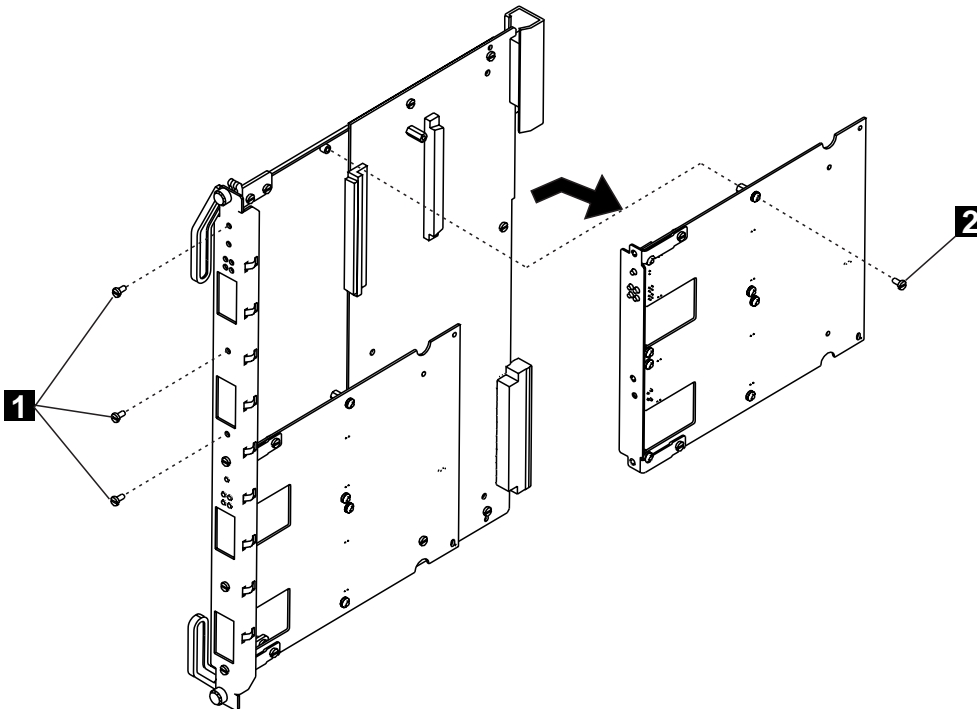

Figure 10. Removing the Motherboard
- **1** Detach the motherboard on which you want to install the I/O card by removing the four screws (**1** and **2** in Figure 10) that hold the motherboard to the module. Save the screws in order to reattach the motherboard.